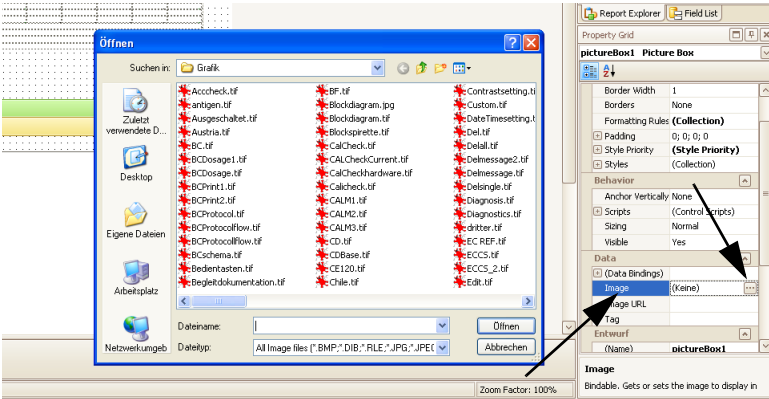

Fig. 12-6: Image button
- Select **Image** and click  to open the Explorer (Fig. 12-6:).
- Select the logo (Fig. 12-6:). The logo will appear in the frame.